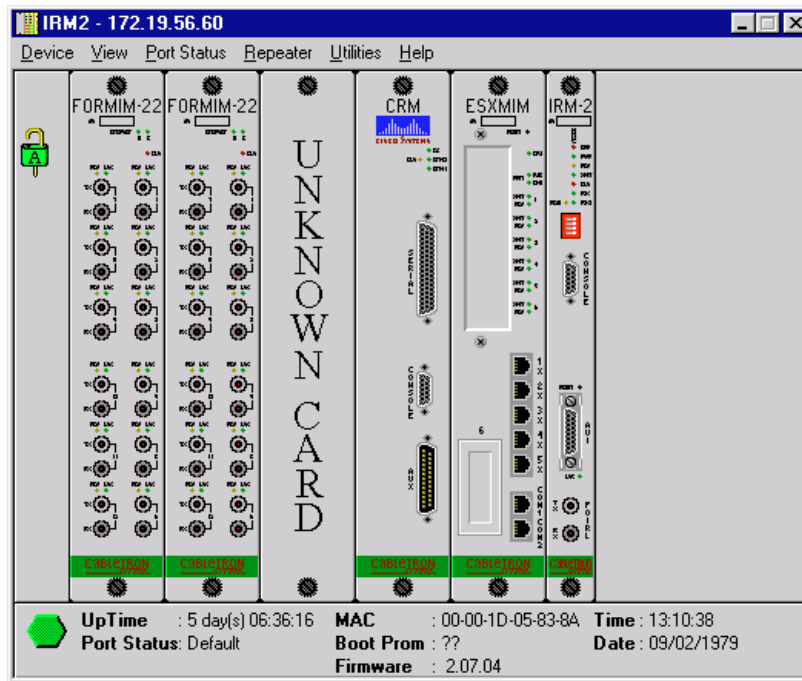

Figure 2-3. The Physical Chassis View
2. Drag down to **Physical**, and release. The Chassis Physical View, Figure 2-3, will appear.